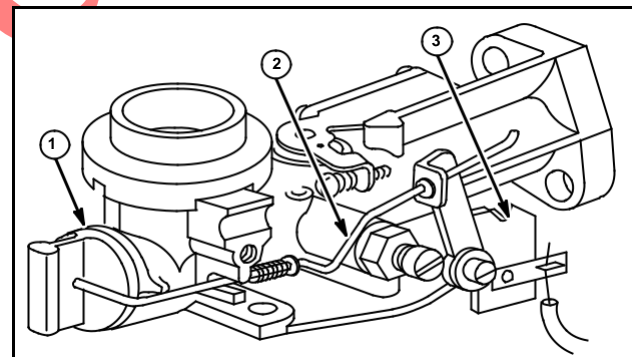

Fig. 91
5. If choke slide does not fully close (1), replace link or use flat nose pliers to bend choke link (2), Fig. 91 (do not over bend).
6. Speed adjustment lever must make good contact against stop switch (3) when moved to stop position.